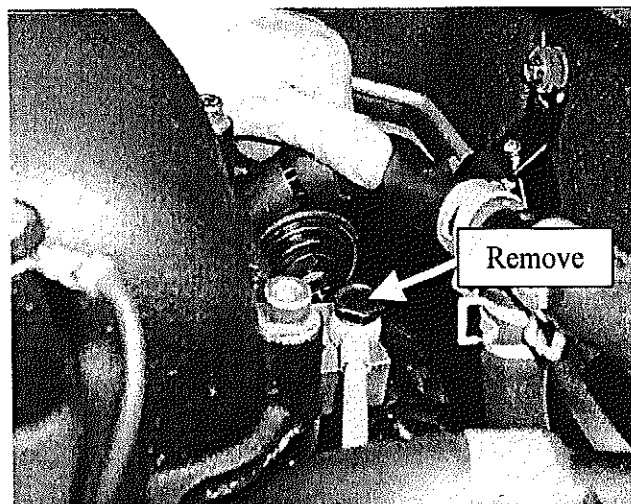

Figure 12
19. Remove the banjo bolt at the TRD auxiliary injector fuel line from the block at the rear of the supercharger (Figure 12). The injector block assembly may vary in appearance from the one in photo depending on the vintage of the vehicle and/or supercharger.